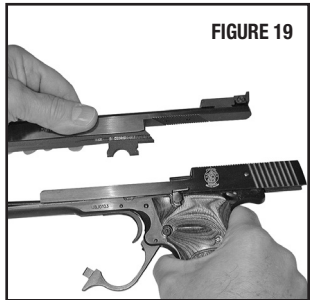

FIGURE 19
- Make sure the pistol remains upright so that the barrel assembly will not fall off when released, lift off barrel assembly (FIGURE 19).